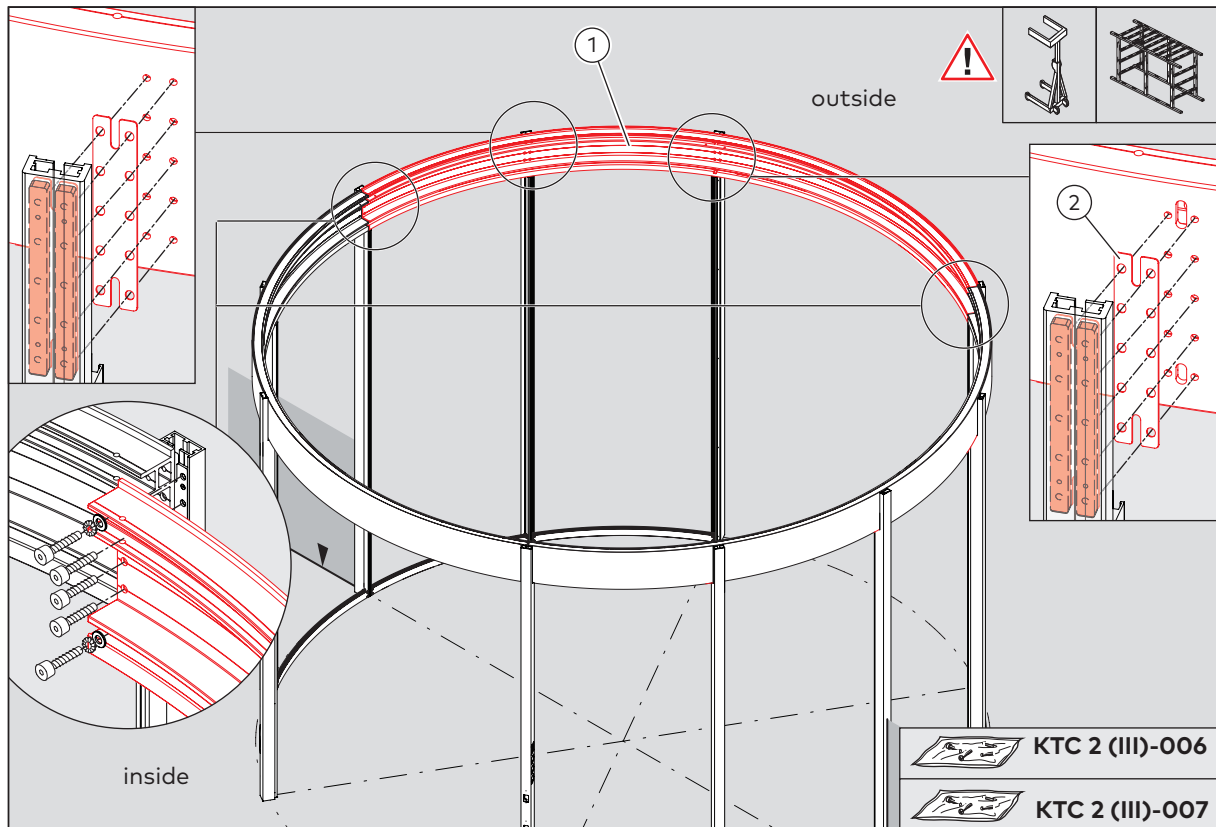

Fig. 34 Mounting the outside track rail
5. Fasten the middle track rail (Fig. 34/1) to the posts using 1 distance plate (Fig. 34/2) per post. Do not tighten the screws yet.